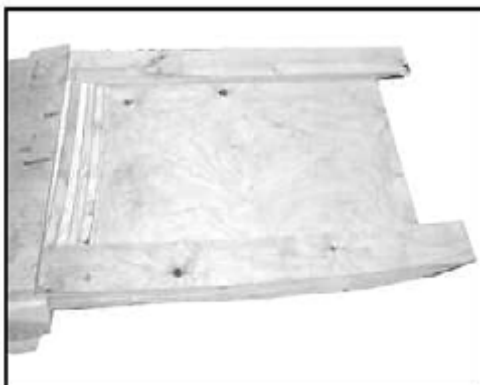

Fig. 9: Ramp_pallet
- Position the ramp against the pallet and nail it down (Fig. 9 / p. 7).